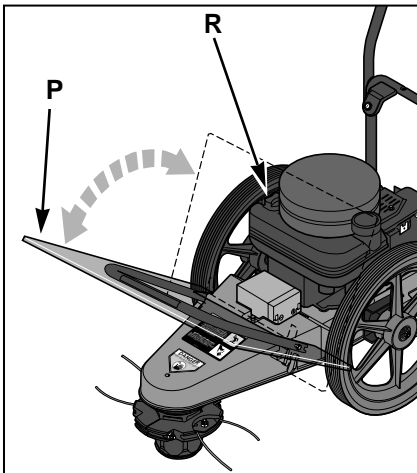

Figure 2-3: Lift and tilt engine debris shield forward.
- C. Lift or slide plastic debris shield (P, Figure 2-3) up and tilt it forward to access engine dipstick/oil fill hole (R).